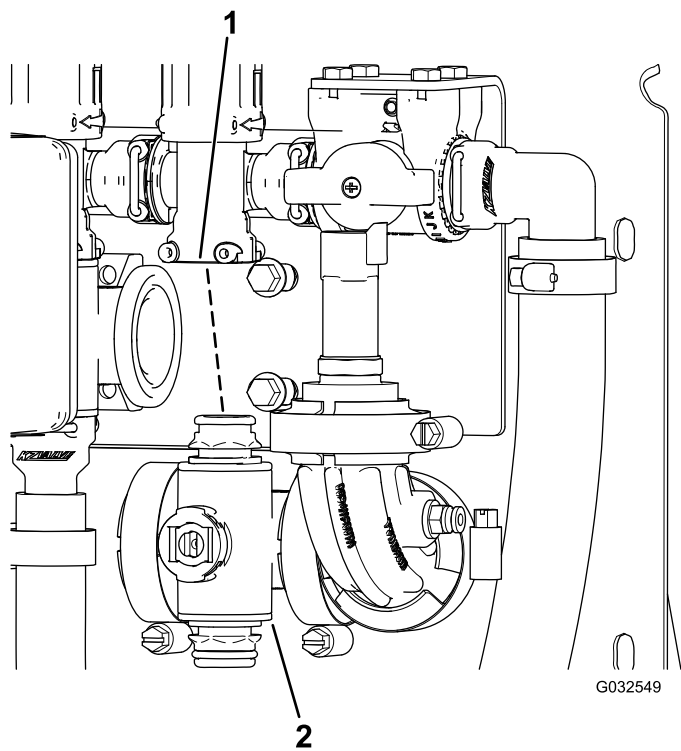

Figure 110
3. Remove the section-valve manifold from the machine (Figure 110).